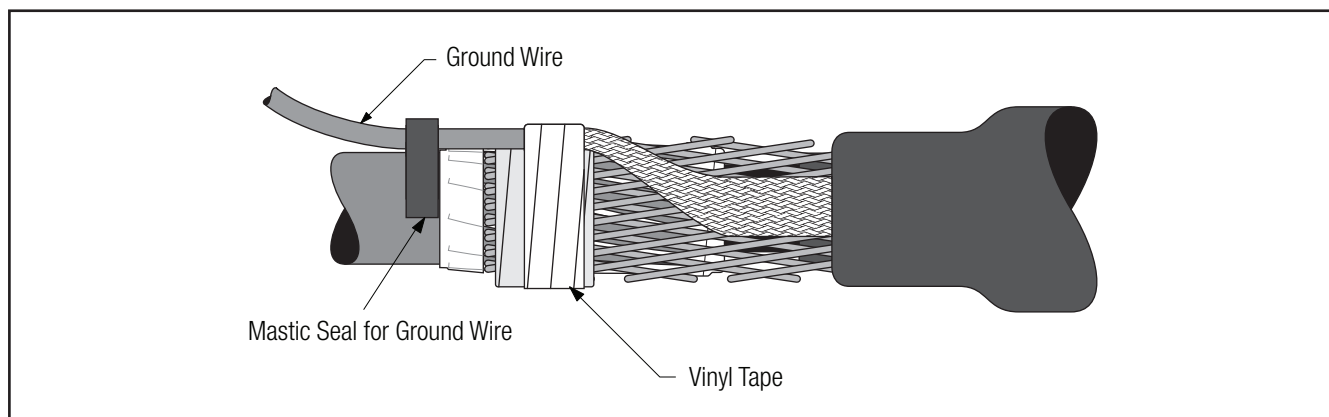

Figure 25
- 6.4 Wrap two half-lapped layers of vinyl tape over the ground connector (*Figure 25*).